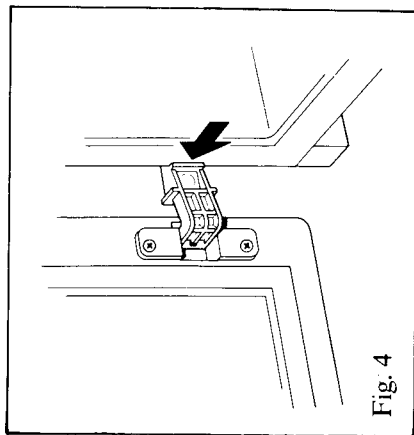

Fig. 4
- 8) Rotate the distance ring (D) to the position as shown and prise out.
- 9) Half open the door (E), tilt and lift out.
- 10) Prise out button (F) and press it into the empty hole on the opposite side.
- 11) Reposition the door catch (G) on the opposite side.
- 13) Loosen the rear mounting screws on the cabinet itself and transfer the cabinet side trim (H) and its mounting brackets (I) to the opposite side.
- 14) Now return to the main door and screw it into the cabinet making sure that the edges of the hinges lie square against the front of the cabinet (Fig. 4).